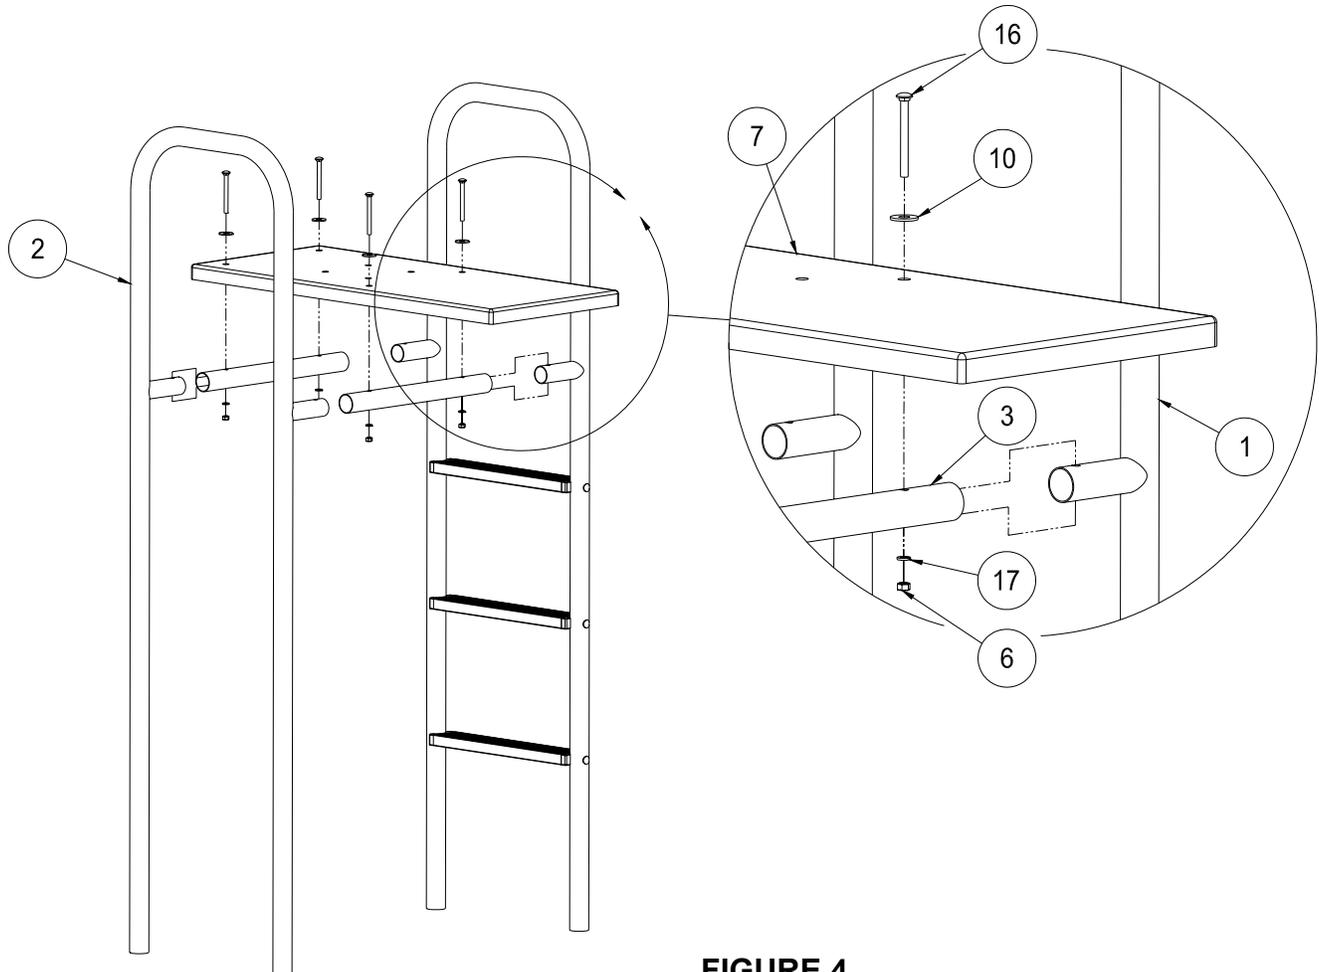

FIGURE 4
- Place **ILGS-205 Footboard Support (item 3)** over **ILGS-205 Tread Frame, Left (item 1)**. Repeat for **ILGS-205 Frame, Right (item 2)**. Place **Footboard (item 7)** over **Footboard Support** and install **Carriage Bolt (item 16)** and **½" Flat Washer (item 10)** through all, four (4) places. Place **3/8" Lock Washer (item 17)** and **Hex Nut (item 6)** over **Carriage Bolt** and tighten. See **FIGURE 4** below.